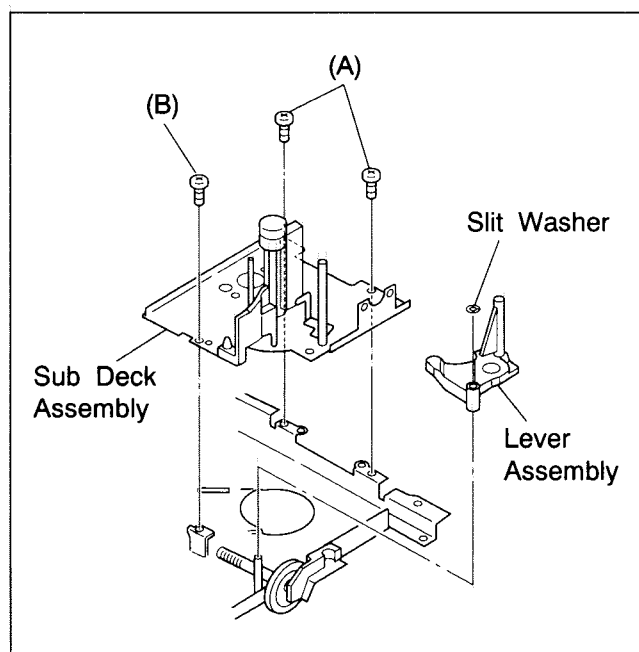

Fig.2-5-8
- (3) Take out 2 screws (A) and 1 screw (B) then remove the sub deck assembly as indicated in Fig.2-5-8.